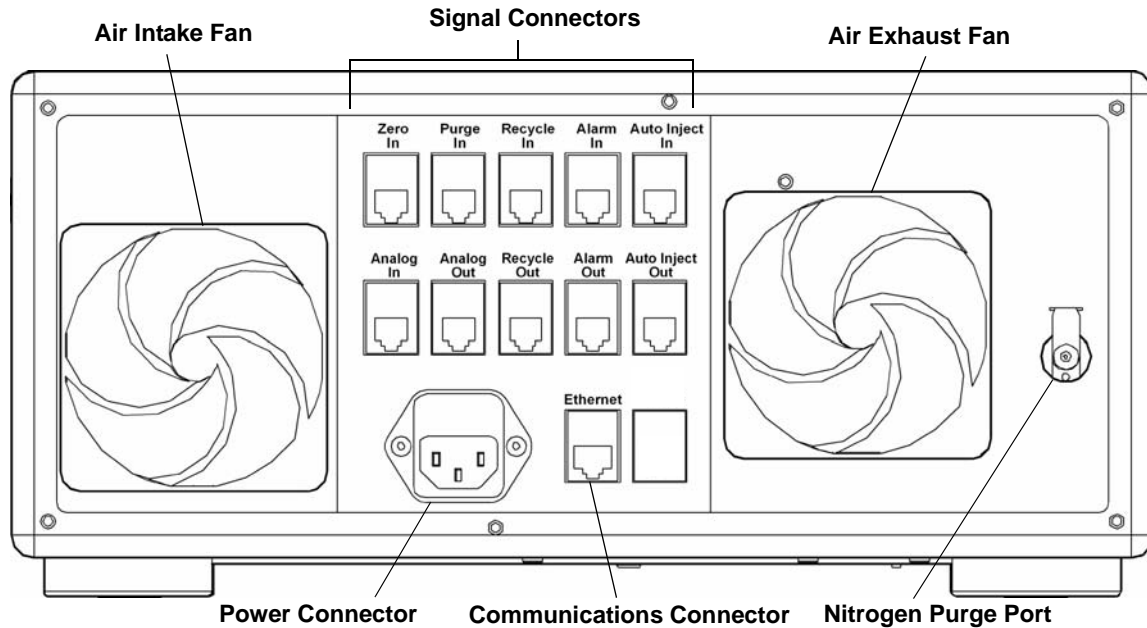

Figure 2-2: Rear panel
The rear panel, see Figure 2-2, provides access for power, signal connections, the cooling fan, air filter, the exhaust fan, and a nitrogen purge port.
1. **Connect the power cable.** The power outlet is located on the Optilab rEX rear panel (see Figure 2-2). The power supply is universal, for immediate use with 100–120 V or 220–240 V power at 50-60 Hz. (See also “Power and Signal Connections” on page 4-2.)